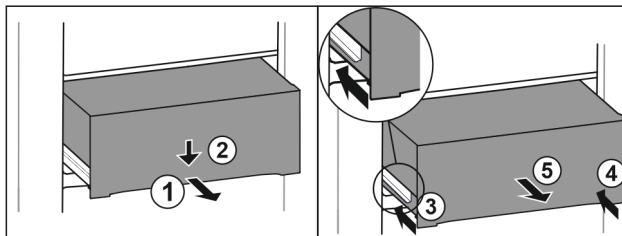

Fig. 95
- Pull out drawer half-way. Fig. 95 (1)
- Push the drawer down at the front. Fig. 95 (2)
- Push the left rail in by about 2 cm. Fig. 95 (3)
- Push the right rail in by about 2 cm. Fig. 95 (4)
- Remove drawer to the front. Fig. 95 (5)